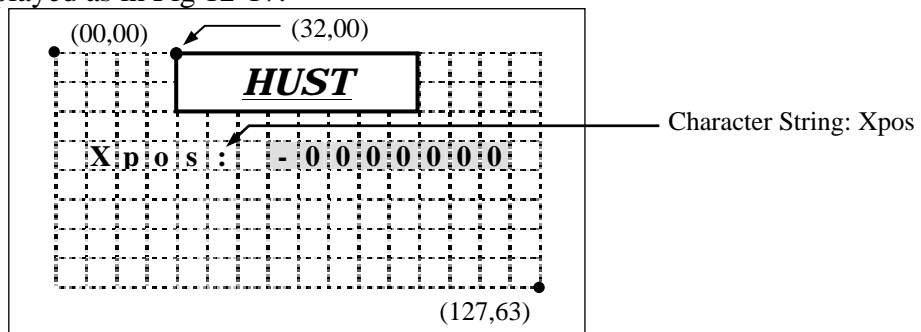

Fig 12-17 LCD Display for Page 1 Object
Step 3: Return to main function screen and the edited content for page 1 is displayed as in Fig 12-17.